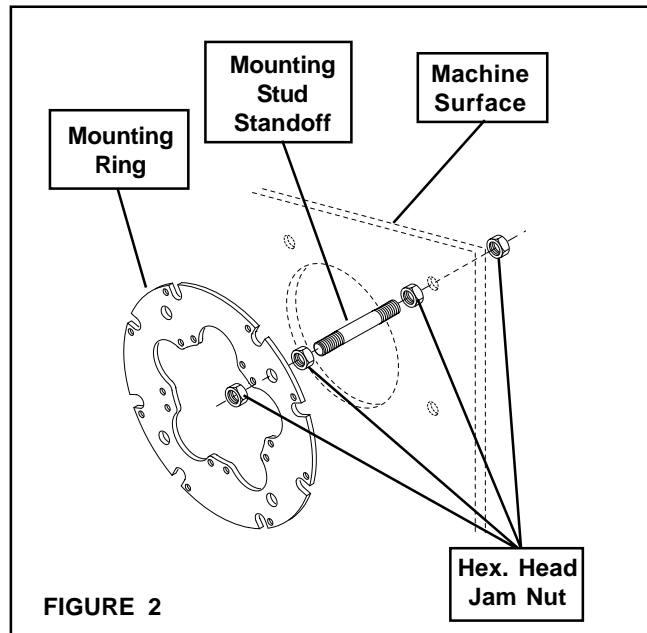

FIGURE 2
- Thread one Hex. Head Jam Nut (Item 9) part way onto one end of each Mounting Stud Standoff (Item 8) (See Figure 2).
- Insert the Mounting Stud Standoffs with Hex. Head Jam Nuts into the holes drilled into the machine surface (See Figure 2).
- From the back side of the machine surface, install the second set of Hex. Head Jam Nuts onto the Mounting Stud Standoffs (See Figure 2).
- Thread a third Hex. Head Jam Nut onto each Mounting Stud Standoff (See Figure 2).
- Slide the Mounting Ring (Item 7) onto the Mounting Stud Standoffs (See Figure 2).
- Thread the fourth Hex. Head Jam Nut onto each Mounting Stud Standoff to hold the Mounting Ring in place (See Figure 2).